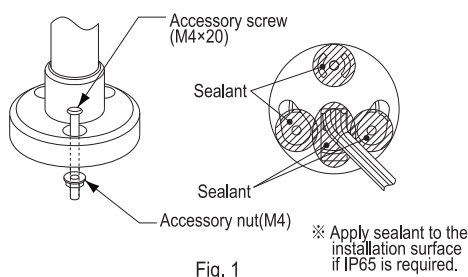

Fig. 1
- If IP65 is required for the pole type, apply sealant to the screws and nuts (3 locations) and the lead wire exit (as shown in Fig.1) when you install the pole bracket to the installation surface.